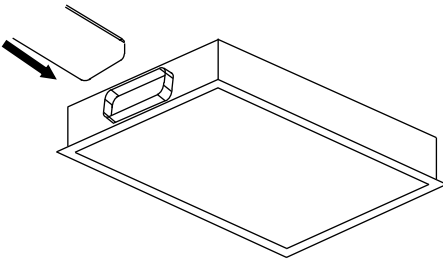

Fig 12
2. Mount the ducting onto the plastic connector of the hood (Fig 12).